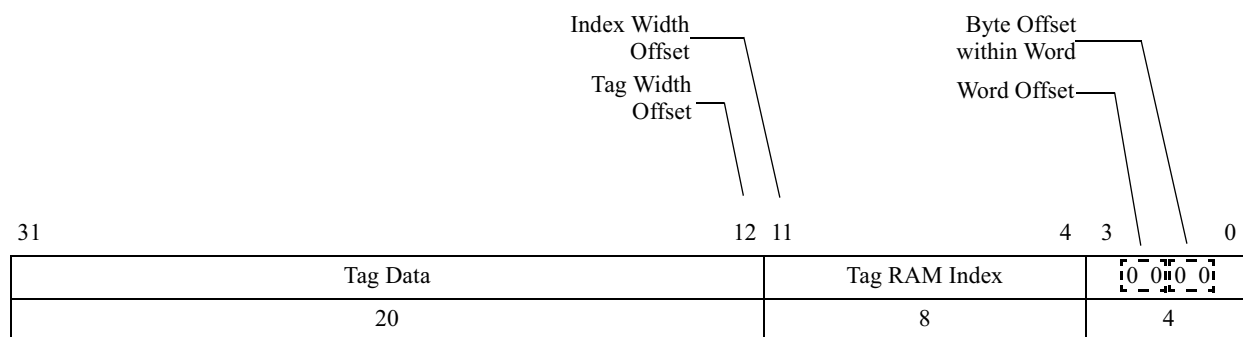

Figure 10. Address for a 4 Kbyte Cache Size
- *Tag Index Width*: This number represents the actual number of bits used to index the Tag RAM, not including the four low-order bits which are always zero. Since each tag RAM entry corresponds to four entries in the data RAM, the lower four bits of the index are zero. Bits 3:2 are used to select one of four words within a cache line, while bits 1:0 are used to select one of four bytes within a given word. This field is referred to as the *Tag RAM Index* field in Figure 10 below.
- *Tag Address Width*: This number represents the actual number of bits in the tag address and is referred to as the *Tag* field in Figure 10 below.
The cache is indexed using the *Tag RAM Index* portion of the 32-bit address. Figure 10 shows the address breakdown for a 4 Kbyte cache implementation.
In Figure 10 above, the 8-bit *Tag RAM Index* field is used to index the tag RAM. The data to be copied into the RAM is stored in the *Tag Data* field. There is one Valid (*V*) bit and one Lock (*L*) bit per tag RAM entry.